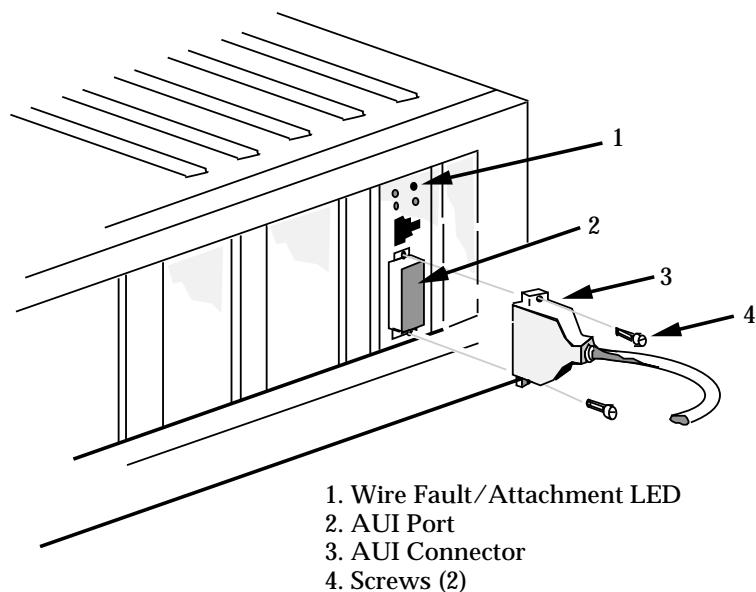

Figure 3-5. Connecting an AUI Cable
Attach the male connector (3, Figure 3-5) on the AUI cable to the adapter's AUI port (2) and tighten the securing screws (4).
see figure 3-5 3-9